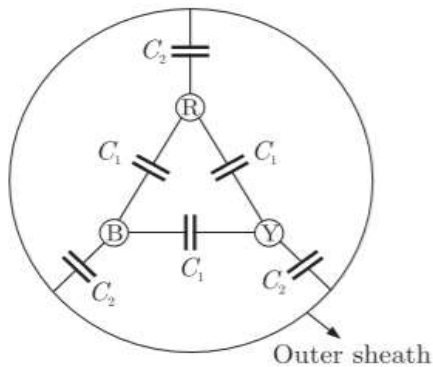

Fig.3
2. Consider a three-core, three-phase, 50 Hz, 11 kV cable whose conductors are denoted as, RY and B in the Fig.3 The inter-phase capacitance( $C_1$ ) between each line conductor and the sheath is 0.4 F m . Find the per-phase charging current.